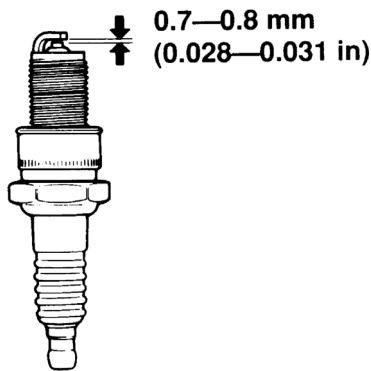

Figure 4-3: Spark Plug Gap
- F. Measure the plug gap with a feeler gauge. Adjust the gap as necessary by bending the side electrode (refer to Figure 4-3).